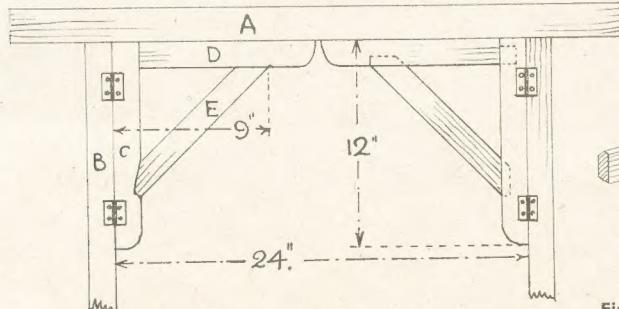

Fig. 2—Showing wall framework and support brackets closed
Fig. 2 gives details of the back frame and the brackets with dimensions for a table of useful size. The various joints, etc., are given in the details, Figs. 3 to 7.
A start may be made upon the back frame, see Fig. 2. This consists of a top rail (A), 36ins. long, and two upright rails (B), the length of these being
The width between the upright rails is given in Fig. 2. The front top edge of the rail (A) should be chamfered or rounded off neatly. The framework can be fixed to the wall by means of Rawplugs or wood pins cemented into the wall in which the screws may be put.
The lower ends of the upright rails should rest upon the top edge of the skirting or direct upon the floor in its absence. The next operation is the making of the brackets, see Figs. 2 and 3.
The brackets are then hinged to the side rails of the back frame, in the manner shown in Figs. 2 and 3. Four brass 2in. hinges should be used.